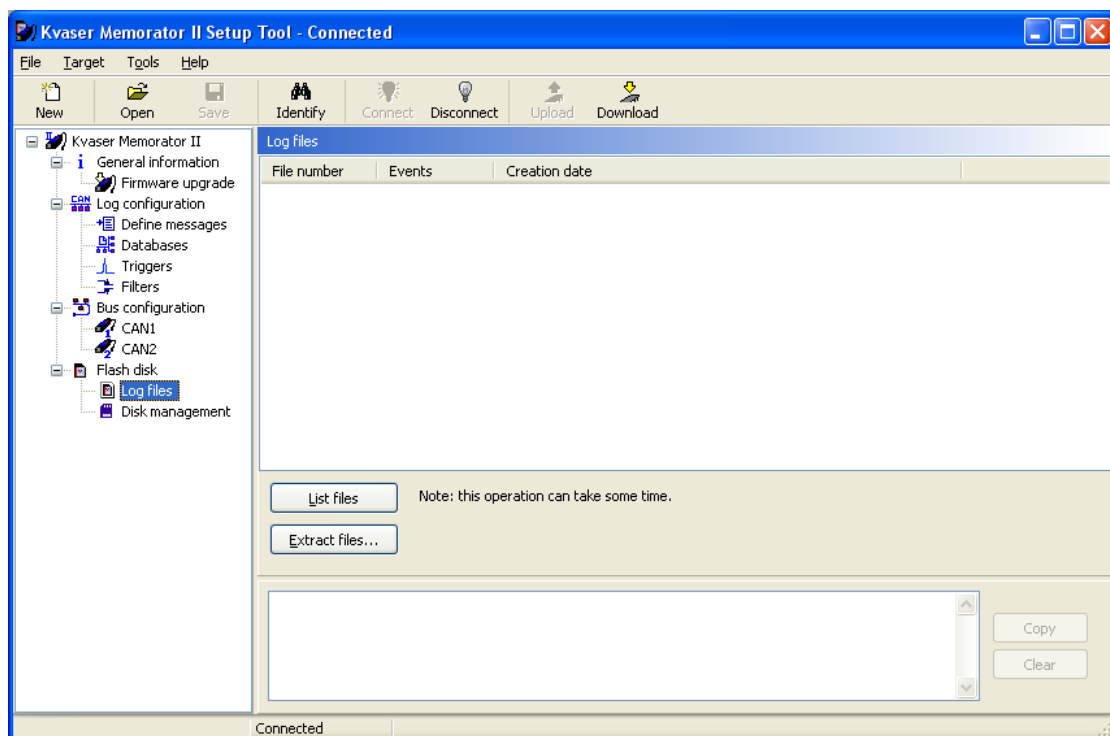

Figure 22. Log files.
- Click at *Flash disk* and then *Log files* at the tree view. See Figure 22.
- When connected, click at the *List files* button. See Figure 22.